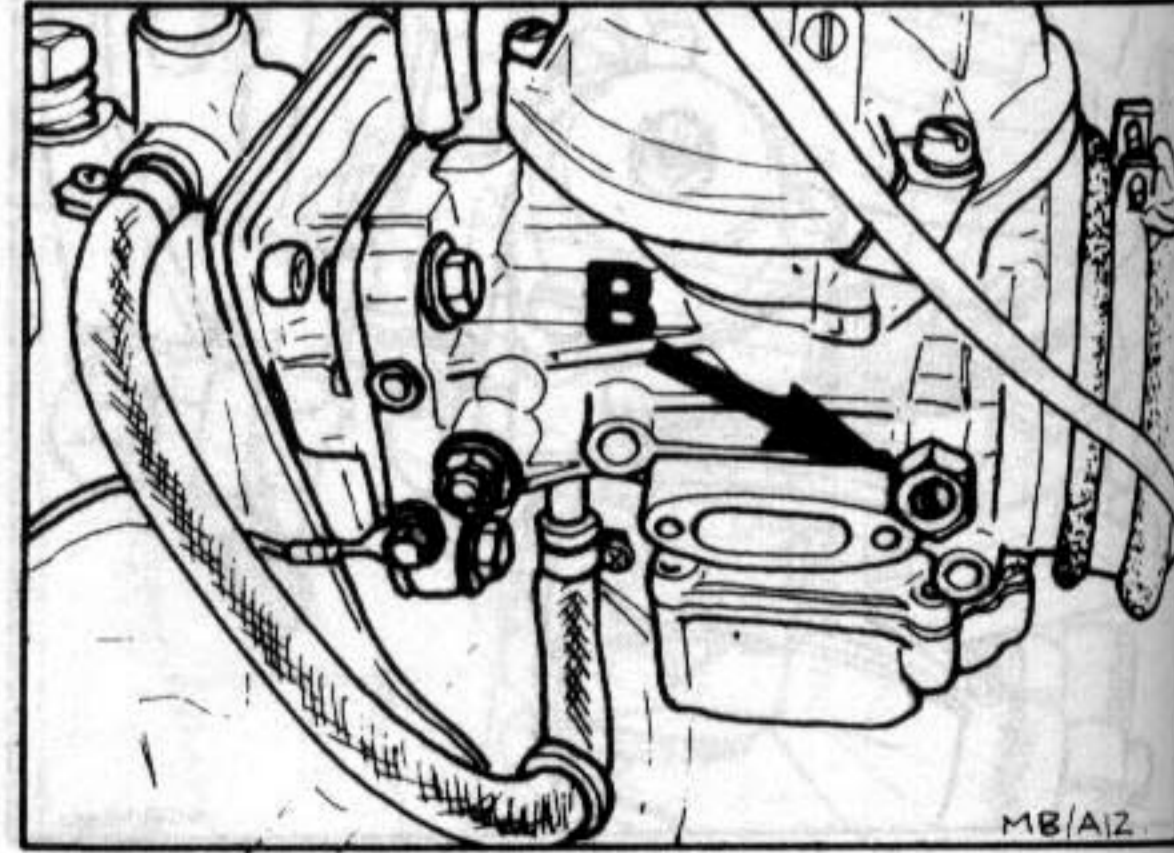
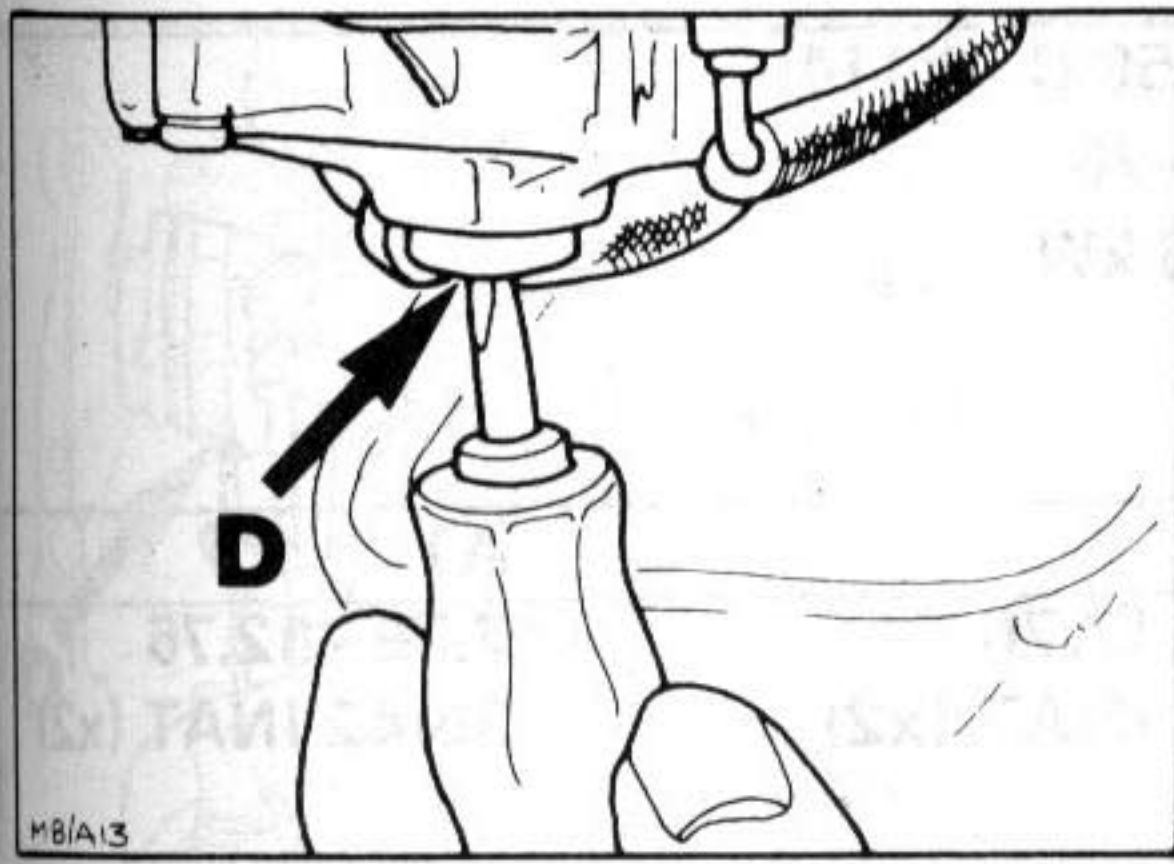

Fig. 3 Ambient air adjustment screw
Fig. 4 Mixture adjustment screw
- f) If outside specified limits, first check that ambient air adjusting screw (B) is screwed fully in (Fig. 3). Remove plastic sealing cap and adjust with mixture adjustment screw (D, Fig. 4).